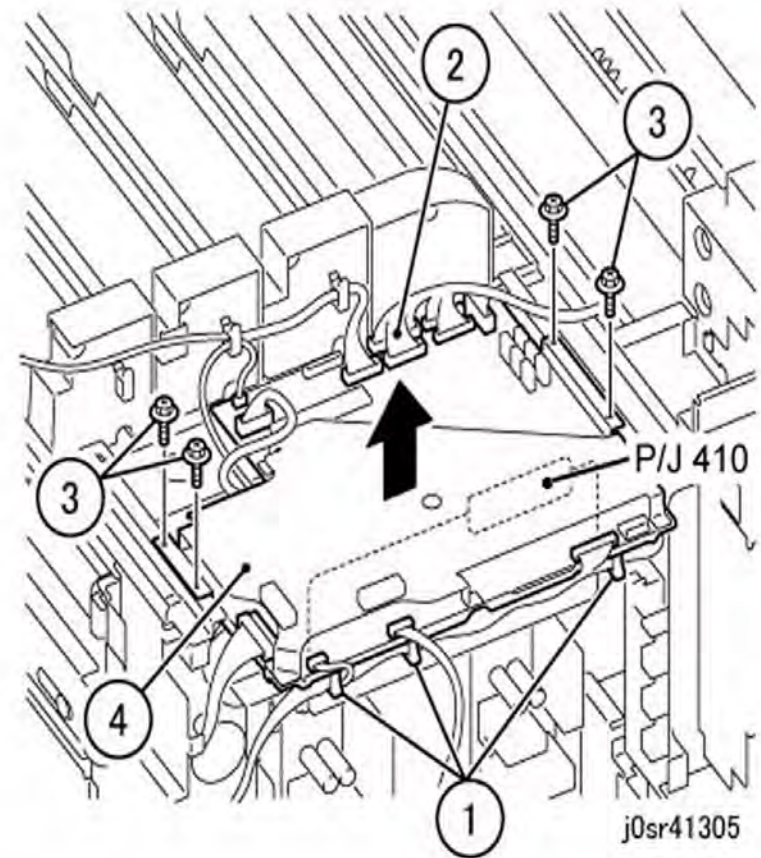

Figure 4 Removing the MCU PWB Assembly
7. Remove the MCU PWB Assembly (Figure 4).